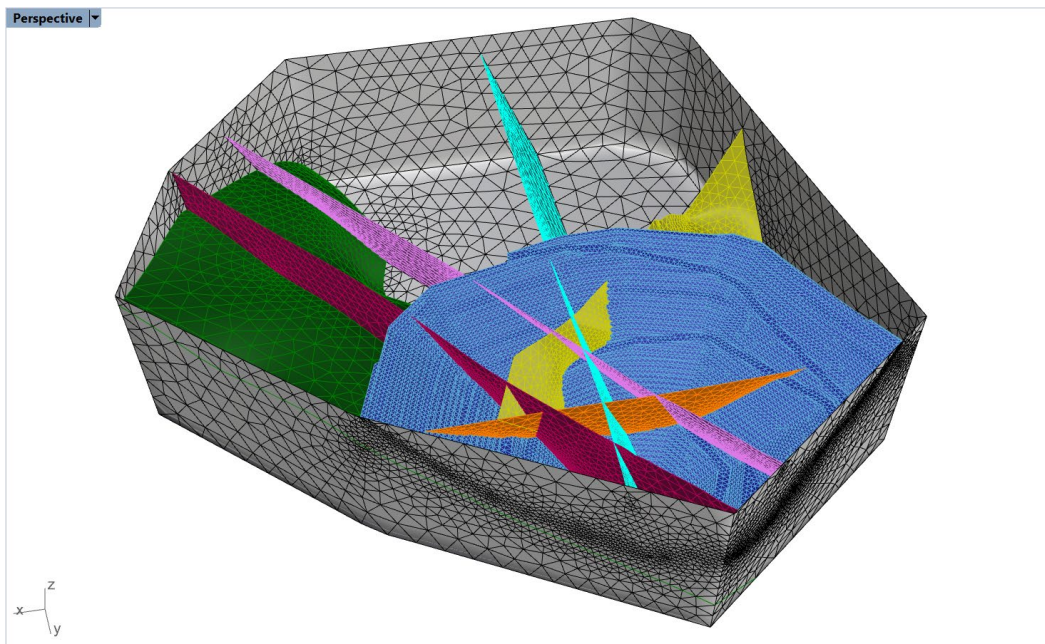

Figure 88: Final triangular surface meshes (the pit dump and topo meshes are not shown).
34. Remesh all meshes using **_GSurf**: *Mode* = *Tri*, *MinEdgeLength* = 10, *MaxEdgeLength* = 75, *RidgeAngle* = 10°, *AdvancedParameters: MaxGradation* = 0.2, *Optimization* = 10, *ShapeQuality* = 0.9, and *OutputMesh* = *Separated*. The results are shown in Figure 88.